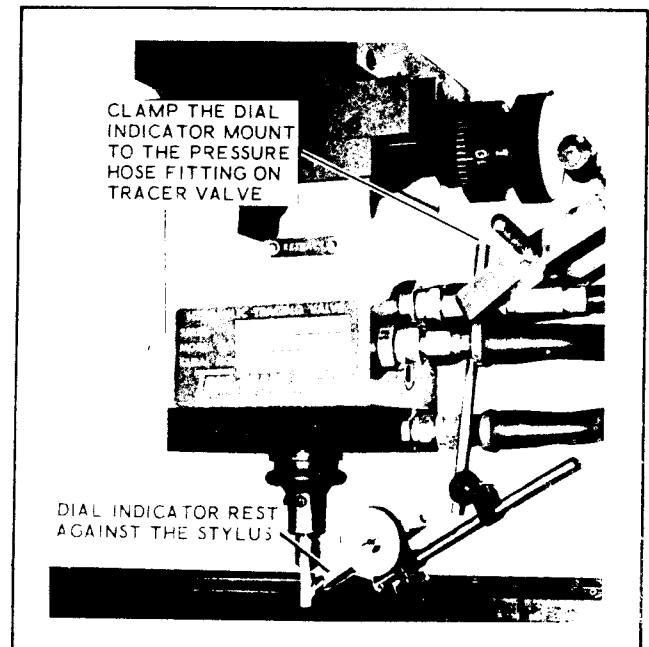

Figure 3-2. Method of Attaching Dial Indicator to Tracing Valve for Checking Spindle Deflection
b. Attach a dial indicator to the tracer valve as shown in figure 3-2 with the tip of the dial indicator resting against the dowel pin.